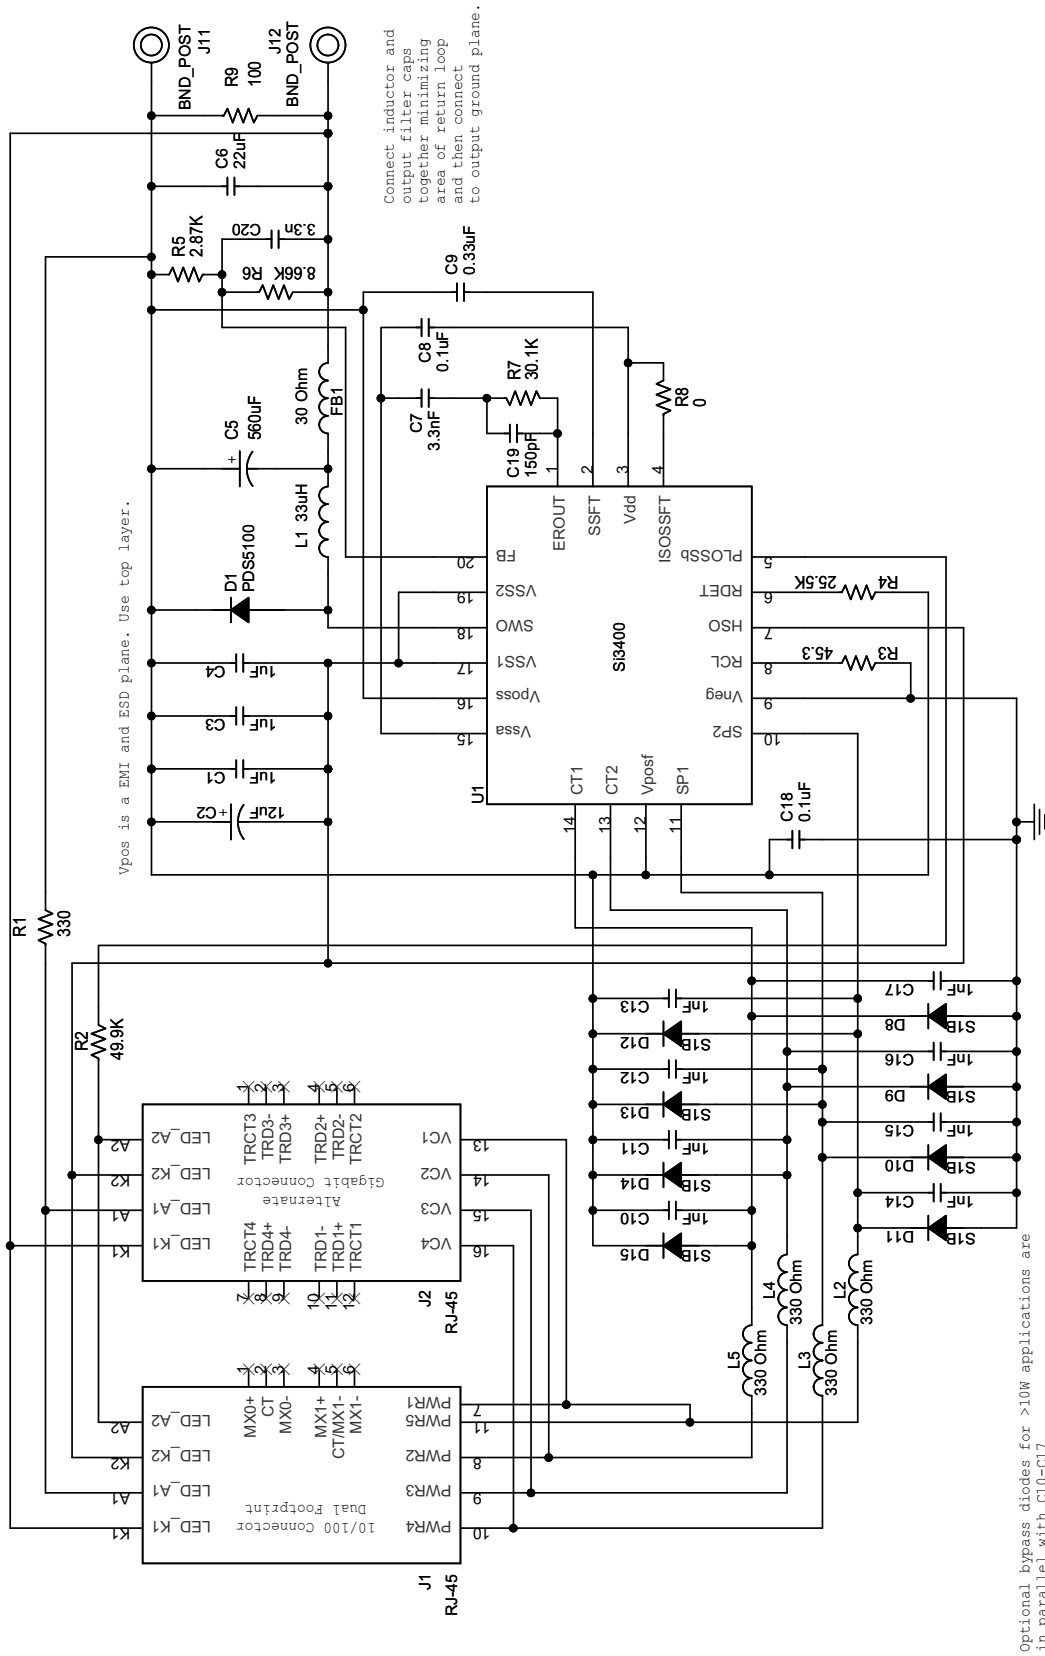

Figure 1. Si3400/1/2 Schematic—5 V, Class 3 PD
The Si3400/1/2-EVB board schematics and layers are shown in Figures 1 through 6. The evaluation boards for the Si3400, Si3401, and Si3402 are essentially identical. The only differences are that the diode bridges are bypassed (populated); the PD controller on the Si3401-EVB is the Si3401; and the PD controller on the Si3402-EVB is the Si3402.
- g. Based on your required PD power level, select the appropriate class resistor value by referring to Table 2 of AN296. This sets the Rclass resistor (R3 in Figure 1 on page 2).